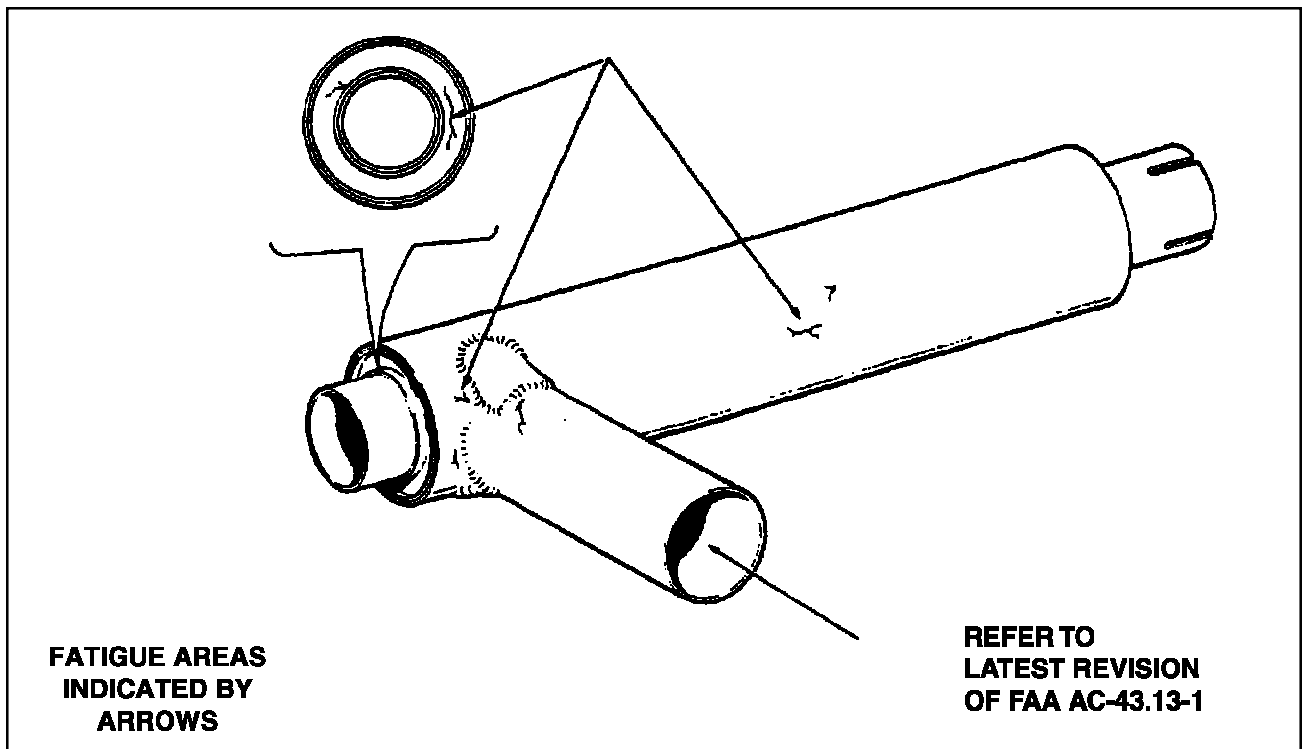

Figure 3-8. Typical Muffler Fatigue Areas
(10) EXHAUST SYSTEM INSPECTION. (Refer to Figure 3-8 thru 3-9.)